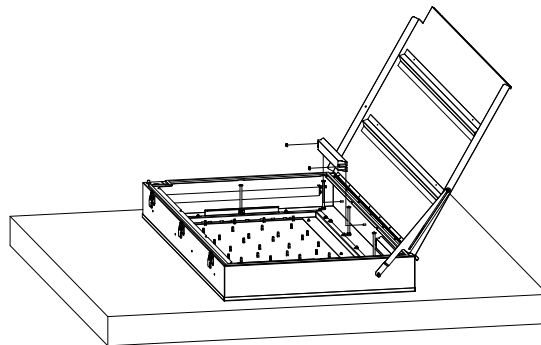

Figure 3
2. Disconnect driver to be replaced and install new driver. See Figure 3.